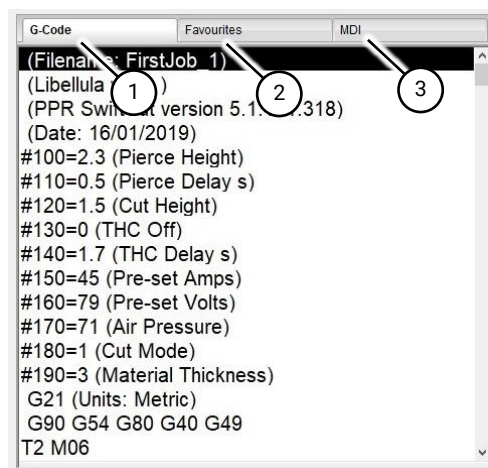

Fig 75 G-Code pane tabs
1. The pane on the left hand side (Fig 75) displays three different tabs as follows:
2. The G-Code tab (Fig 75 (1)) shows the lines of G-Code that form the actions that will be undertaken during the cutting process. Each line is highlighted when it is being executed.